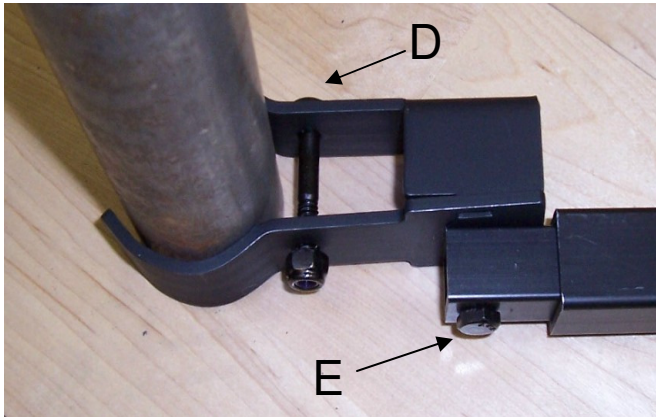

Fig. 5
2. Using a 1/4" x 1 3/4" bolt, attach two half clamps loosely to your Roll Bar. (Use hole D) See Fig. 5 & 6. Make sure the tabs on the half-clamps fit into the notches on the lower bracket. (Fig. 8) Repeat on opposite side of vehicle.
4. Put the Sky Bar in position and insert a 1/4" x 2 3/4" bolt through the half clamps and 1" tube. Tighten. (Use hole E. Fig. 5 & 6)
5. Repeat on the other end of the Sky Bar. (3/4" tube) (Fig. 5 & 6)